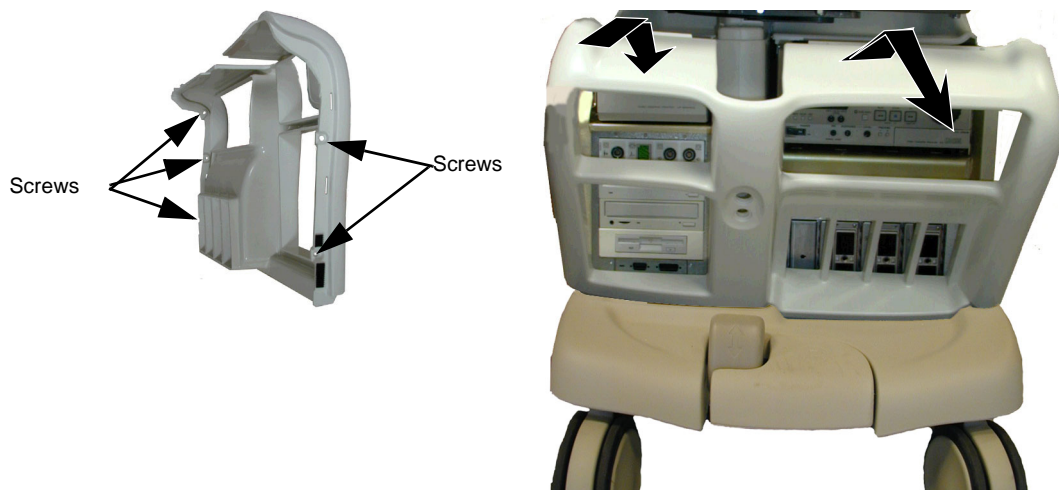

Figure 8-5 Front Cover Replacement
- 1.) Unscrew five (5) Phillips screws that fasten it to the chassis.
- 2.) Pull it outwards to free it from the Top Cover and Front Bumper (See Figure 8-5).
- 1.) Thread the same, or a new, cover so it fits in between chassis and bumper (See Figure 8-5).
- 2.) Thread it so it links together with Top Cover. You may have to loosen two (2) Phillips screws on the top cover that are closest to the Front cover.
- 3.) Unscrew two (2) screws with magnetic lock (part number 080X1200) for Filter Cover. Left screw contains also 3 or 4 washers (080C2053), right screw 5 or 6 washers, depending on thickness of Lower Rear Cover.
- 4.) Unscrew four (4) remaining Phillips screws that fasten Lower Rear Cover to the chassis (See Figure 8-5).